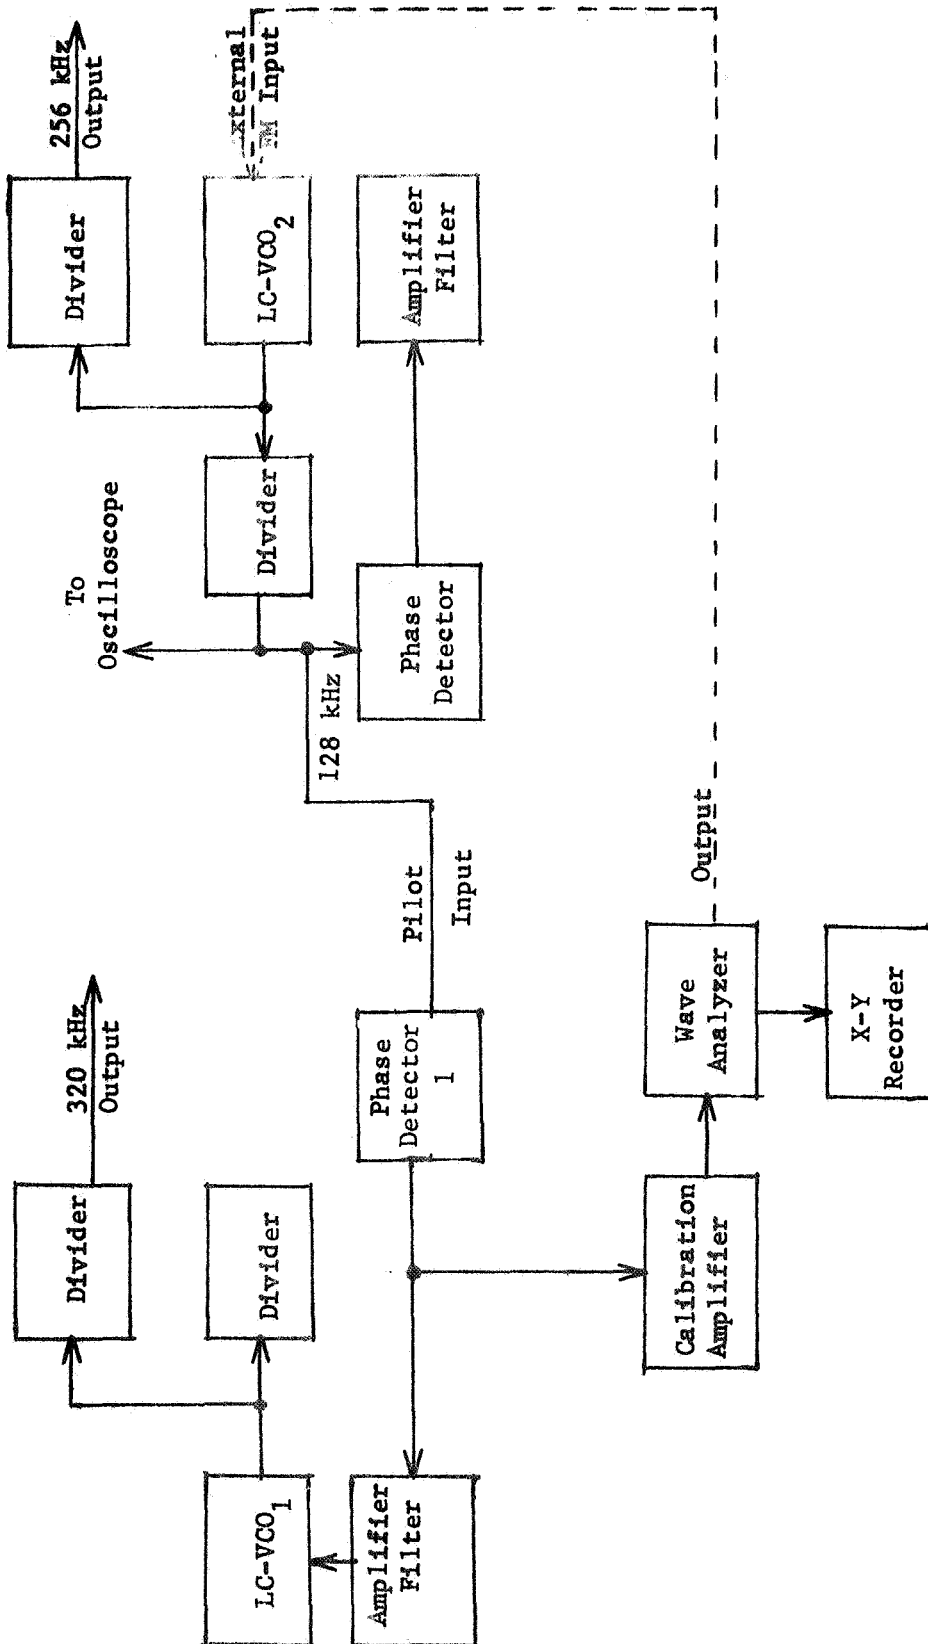

Figure 4.1
- A. Use test set up shown in Figure 4.1.